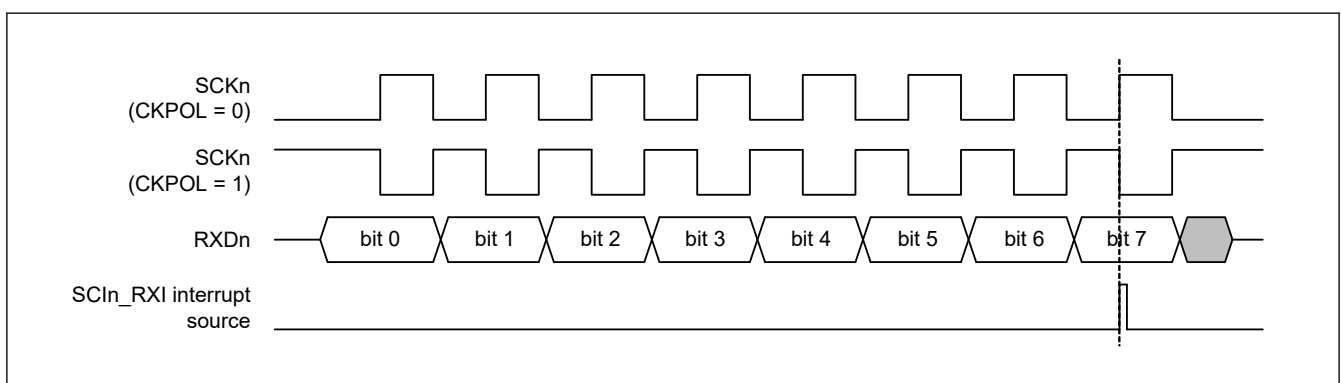

Figure 25.78 Timing of SCIIn\_RXI interrupt in simple SPI mode with clock delay
- For the clock delay setting (SPMR.CKPH bit is 1), the receive data full interrupt (SCIIn\_RXI) is generated before the final clock edge on the SCKn pin as indicated in Figure 25.78. If the TE and RE bits in the SCR register become 0 before the final edge of the clock signal on the SCKn pin, the SCKn pin is placed in the high-impedance state, so the width of the last clock pulse of the transfer clock is shortened. Additionally, an SCIIn\_RXI interrupt might lead to the input signal on the SSn pin of a connected slave going to the high level before the final edge of the clock signal on the SCKn pin, leading to incorrect operation of the slave.